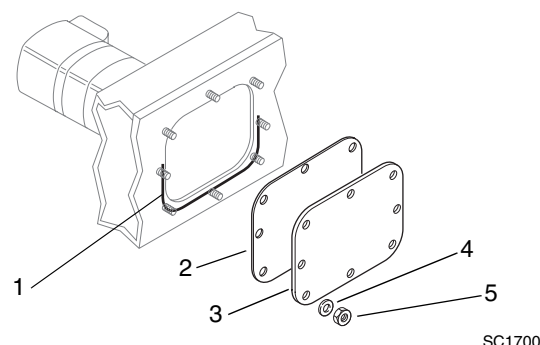

Figure 7-89 Access Cover Installation
13. Clean any sealer residue from the lower part of the access cover opening (Fig. 7-89, 1). Apply a new 1/8" bead of sealant (1) such as Permatex 2 RTV around the lower half of the opening.
14. Reassemble the cover gasket (Fig. 7-89, 2) and cover (3) to the side of the chain case using the original washers (4) and hex locknuts (5). Torque the eight locknuts to 14 lb/ft (19 Nm) to complete the adjustment procedure.